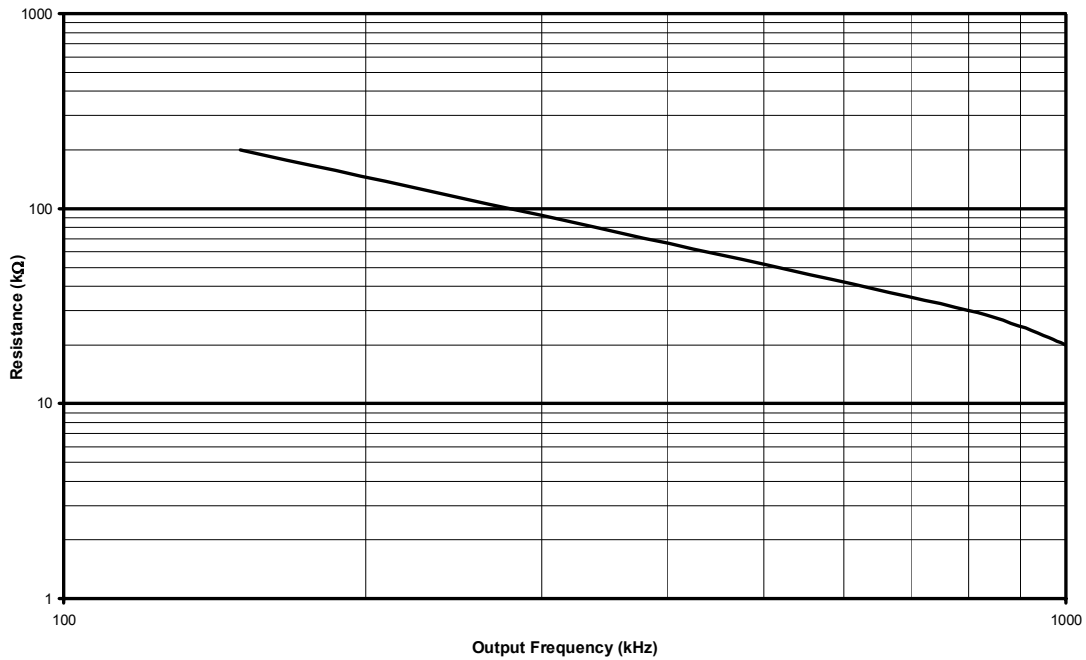
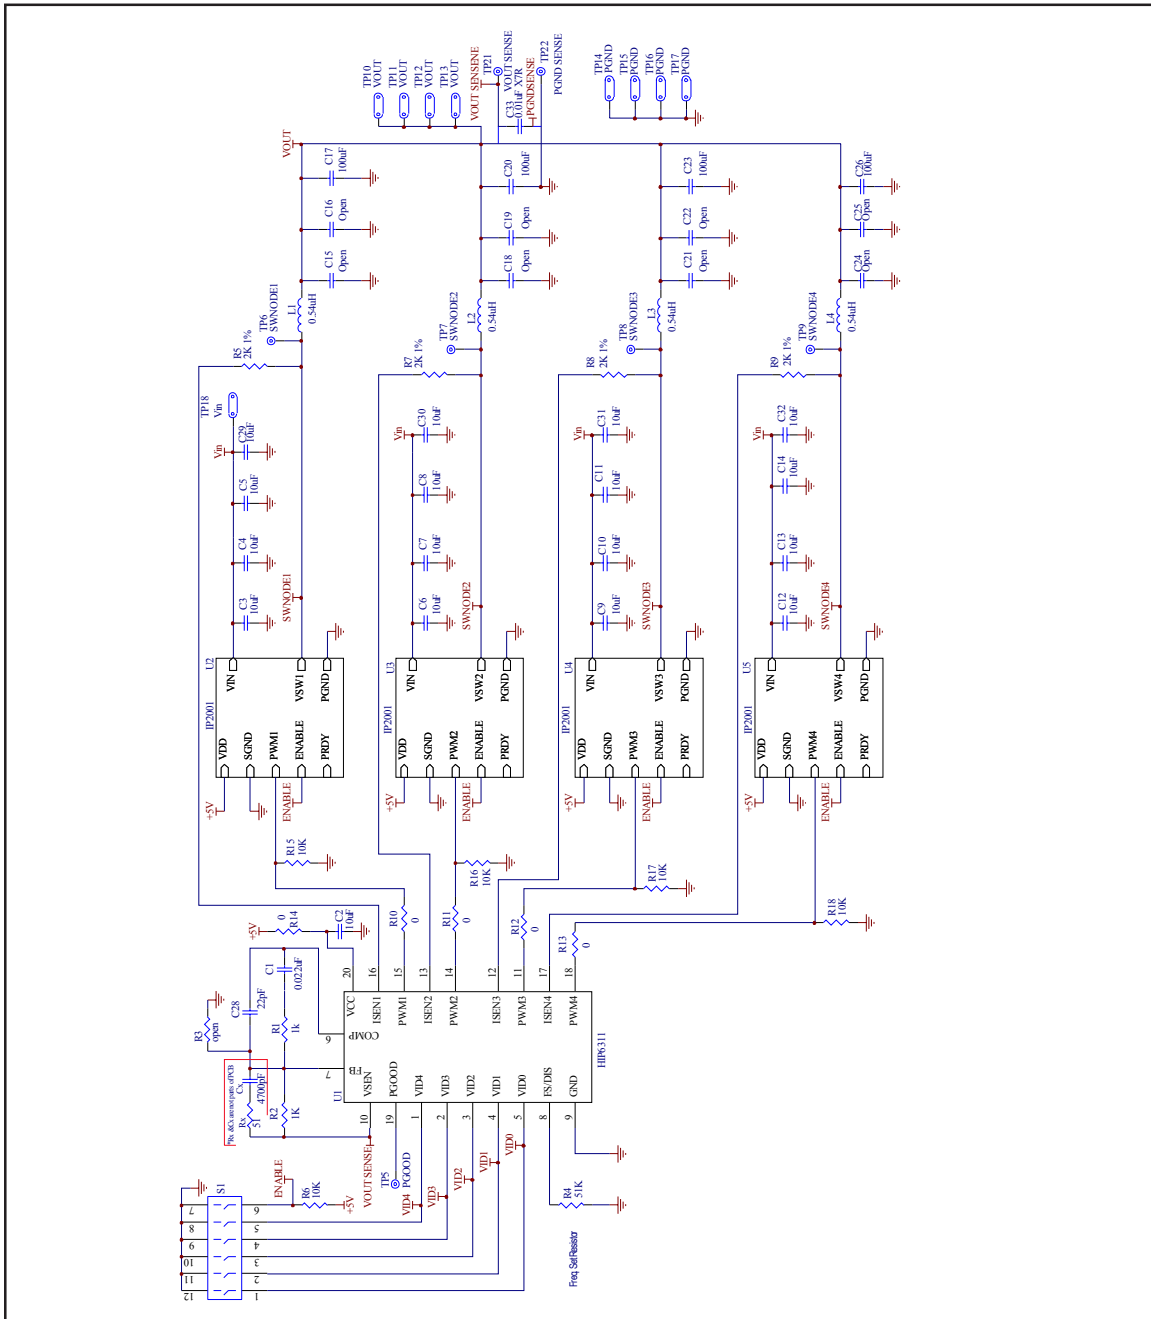

Figure 1 - R4 vs. Frequency per Phase
Fig. 3 - Reference Design Schematic
In this document, table 1 and figure 1 are provided to enable engineers to easily evaluate the iP2001 in a 4-phase configuration that is capable of providing up to 80A in a lab environment without airflow. Figures 3, 4, 5 and 6 and the complete bill of materials in table 2 are provided as a reference design to enable engineers to very quickly and easily design a 4-phase converter. In order to optimize this design to your specific requirements refer to the data sheet for the controller listed in the bill of materials. A variety of other controllers may also be used, but the design will require layout and control circuit modifications.
- The switching frequency per phase is set to 500kHz with the frequency set resistor R4. This creates an effective output frequency of 2MHz. The graph in figure 1 shows the relationship between R4 and the switching frequency per phase. This frequency may be adjusted by changing R4 according to this graph; however, extreme changes from the 500kHz set point may require redesigning the control loop and adjusting the values of input and output capacitors. Also, refer to the SOA graph in the iP2001 datasheet for maximum operating current at different frequencies.